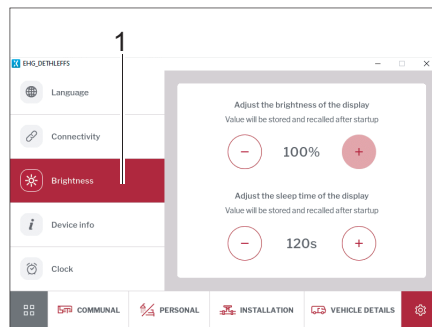

Fig. 293 Brightness
- Click on the *Brightness* (Fig. 293,1) button.